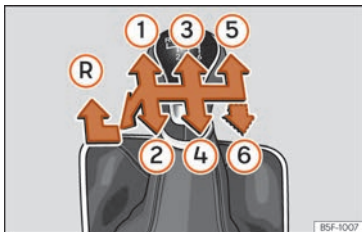

Fig. 100 Gear shift pattern of a 5 or 6-speed manual gearbox.
»» Fig. 100.
- With the gear lever in neutral, push it down, move it all the way to the left and then forwards to select reverse gear »» Fig. 100 (R).